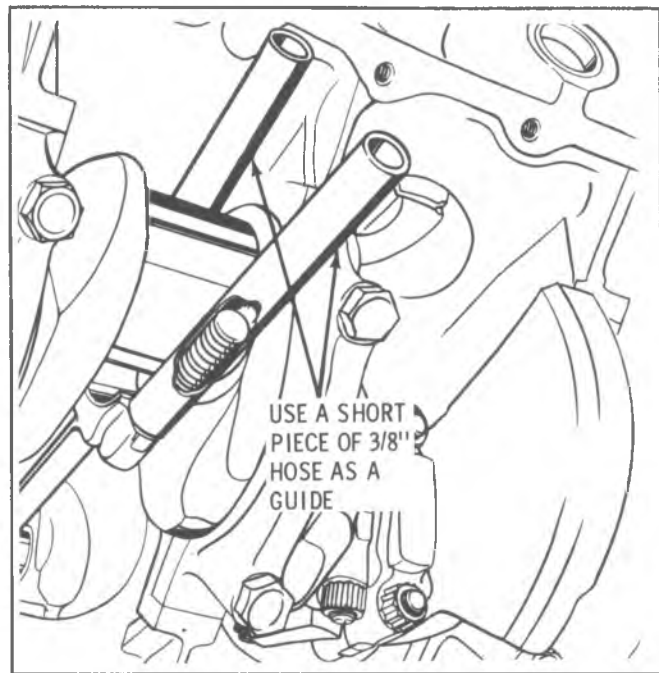

Fig. E-67—Connecting Rod Bolt Guide
1. Install connecting rod bolt guide hose over rod bolt threads. (Fig. E-67)